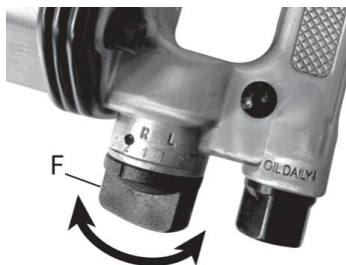

Fig. 5
7. Select your desired power using the air flow regulator (F). It is numbered 1 through 3, with 1 being the least powerful and 3 being the most powerful (Fig. 5).
9. Grip the impact wrench firmly with both hands and gently squeeze the trigger (D).